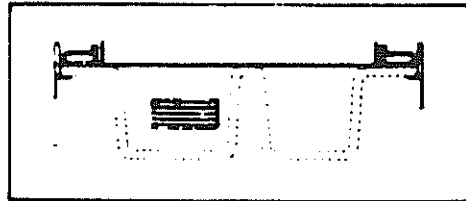

FIGURE 4.10 INSTALLATION OF MAIN DECK AND HOOD SEAT GASKET (GROUP 1)
- B. INSTALL THE MAIN DECK AND HOOD SEAT GASKET (GROUP 1)** into the Base Assembly as shown in Figure 4.10. Rotate the Main Deck Retainer Knob to secure the deck.